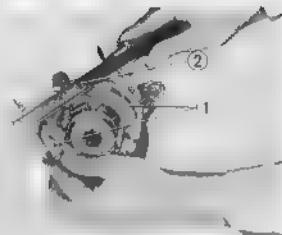

Fig. 4.90 Measuring brake lining
- Check the brake shoes Fig. 4.90